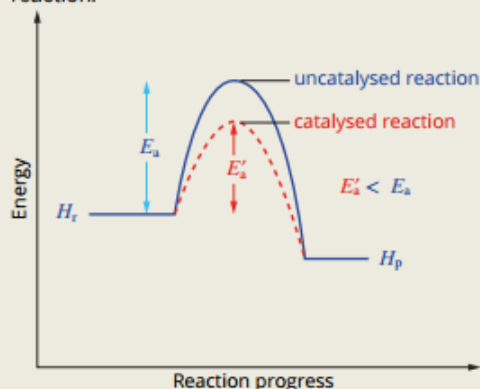

FIGURE 19.1.12 Energy profile diagram of a reaction showing the effect of a catalyst
- Energy profile diagrams (Figure 19.1.12), which can include catalysed and uncatalysed pathways, may be used to represent the enthalpy changes and activation energy associated with a chemical reaction.